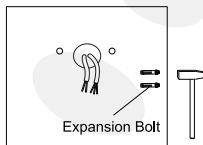

Figure 6-2
Step 2: Knock the expansion bolts into the wall.(Figure 6-2)